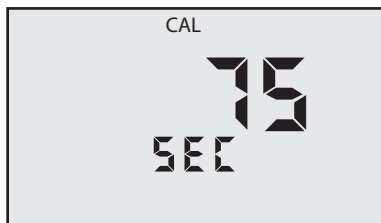

Figure 25
5. Press  $\frac{\blacktriangle}{\text{MS}}$  or  $\frac{\text{MR}}{\blacktriangledown}$  to change the time (see Figure 25). Maximum time is shown.